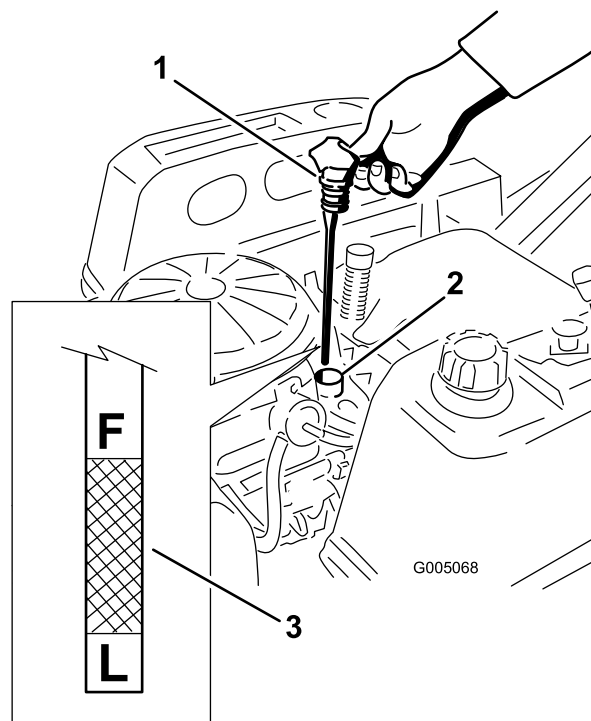

Figure 30
4. Pull and remove the oil fill cap/dipstick; wipe oil off. Reinsert the dipstick and push firmly into place (Figure 30).
5. Remove the dipstick and check the oil level. (Figure 30).
8. Turn the drain valve 1/4 counter clockwise to open and allow the oil to drain (Figure 32). Remove the oil fill cap/dipstick (Figure 30).
15. Slowly pour approximately 80% of the specified oil into the filler tube (Figure 30).
16. Install the oil fill cap/dipstick and push firmly into place (Figure 30).
17. Check the oil level (Figure 30); refer to Checking the Oil Level.
19. Install the oil fill cap/dipstick and push firmly into place (Figure 30).